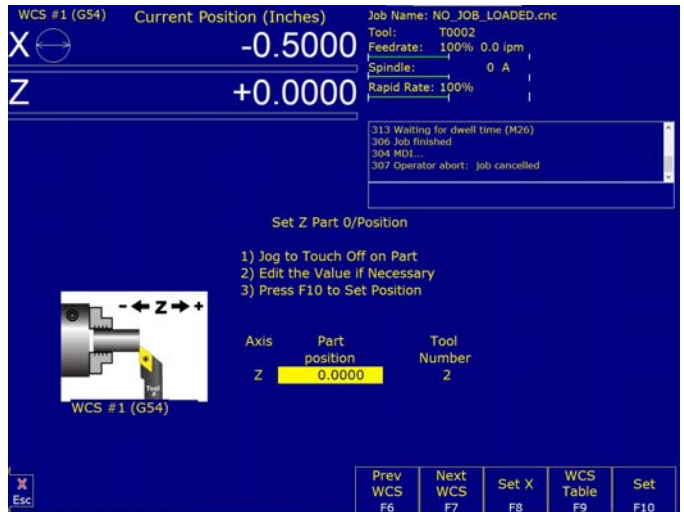

FIGURE 13
9. We did a face cut on the front of the part to set the Z Part Zero position. With the Ref Tool (#2) still at the cut position, Highlight the Part Position. This will default to (0.0000) and be in Yellow. Make sure the “Tool Number” is correct. Then, click on Set F10 (see Figure 13). This will set the current cut point to Part Z Zero.